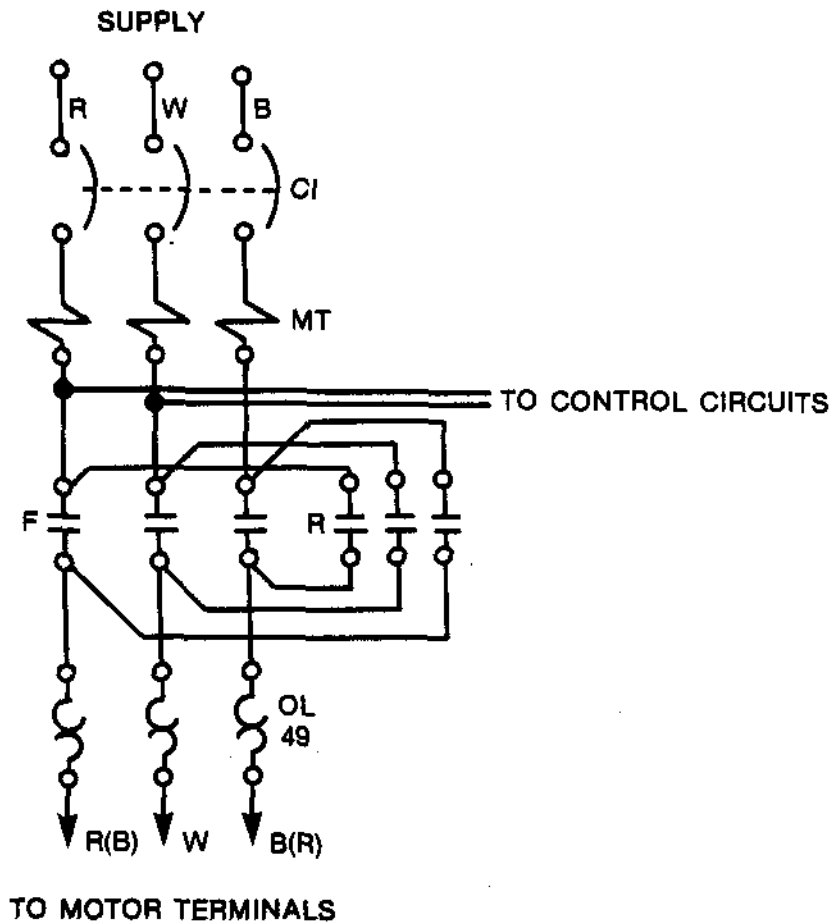

Figure 8: Forward and Reverse Contactors for a Reversing Motor.
Reversing Motors have similar control systems to non-reversing motors except that two contactors are used, one for forward (F) and one for reverse (R). Figure 8 shows that by using two contactors the R-W-B phase sequence is changed to B-W-R which reverses the motor. The contactors are interlocked to guard against simultaneous forward and reverse signals being given.